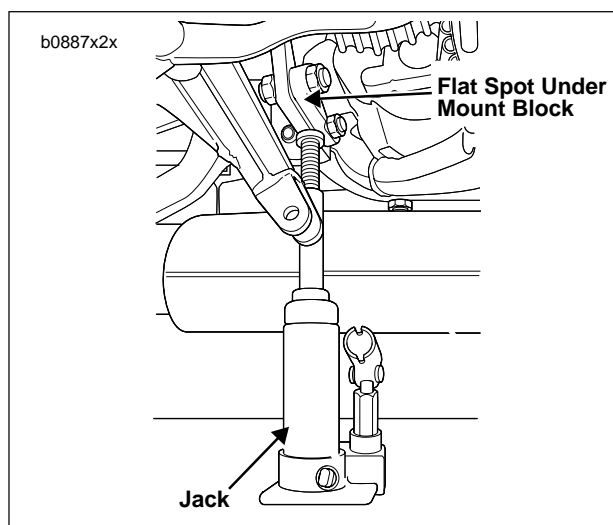

Figure 2-94. Supporting Motorcycle with Jack
- a. See Figure 2-94. Support motorcycle with jack.